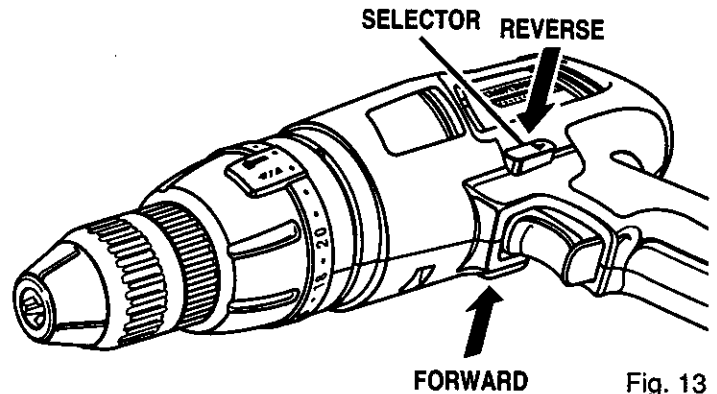

Fig. 13
- Lock the switch trigger by placing the direction of rotation selector in center position. See Figure 13.
- Depress latch located on front of battery pack (1) to release battery pack.
- Pull forward on battery pack (2) to remove from drill.
See Figure 13.